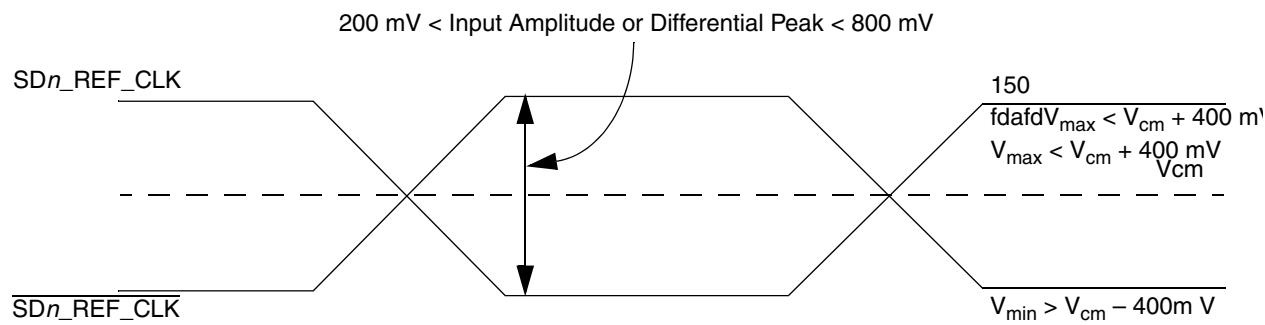

Figure 54. Differential Reference Clock Input DC Requirements (External AC-Coupled)
- For **external AC-coupled** connection, there is no common mode voltage requirement for the clock driver. Since the external AC-coupling capacitor blocks the DC level, the clock driver and the SerDes reference clock receiver operate in different command mode voltages. The SerDes reference clock receiver in this connection scheme has its common mode voltage set to SGND_SRDS n . Each signal wire of the differential inputs is allowed to swing below and above the command mode voltage (SGND_SRDS n). Figure 54 shows the SerDes reference clock input requirement for AC-coupled connection scheme.